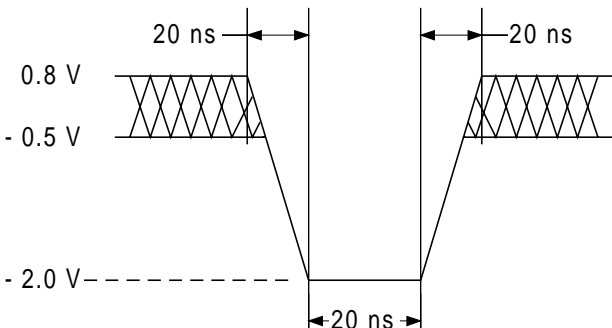
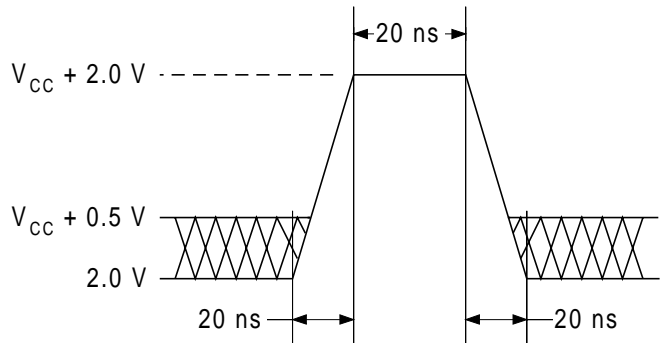

Figure 9. Maximum Undershoot Waveform
Figure 10. Maximum Overshoot Waveform
1. Minimum DC voltage on input or I/O pins is -0.5 V. During voltage transitions, input or I/O pins may undershoot  $V_{SS}$  to -2.0V for periods of up to 20 ns. See Figure 9. Maximum DC voltage on input or I/O pins is  $V_{CC} + 0.5$  V. During voltage transitions, input or I/O pins may overshoot to  $V_{CC} + 2.0$  V for periods up to 20 ns. See Figure 10.
2. Minimum DC input voltage on pins A[9], OE#, and RESET# is -0.5 V. During voltage transitions, A[9], OE#, and RESET# may undershoot  $V_{SS}$  to -2.0 V for periods of up to 20 ns. See Figure 9. Maximum DC input voltage on these pins is +12.5 V which may overshoot to 14.0 V for periods up to 20 ns.